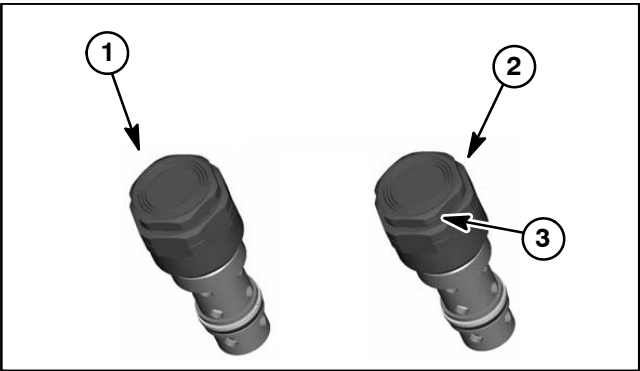

Figure 50
19.Remove forward and reverse relief valve cartridges from center case noting relief cartridge location for assembly purposes. The reverse relief valve cartridges can be identified by the groove in the hex head (Fig. 50).